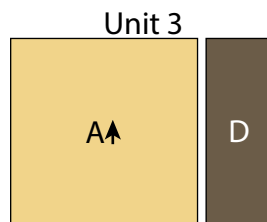

Fig. 5
3. Sew (1) $3\frac{1}{2}$ " x 9" Fabric D strip to the right side of (1) 9" Fabric A square to make (1) Unit 3 strip (Fig. 5).